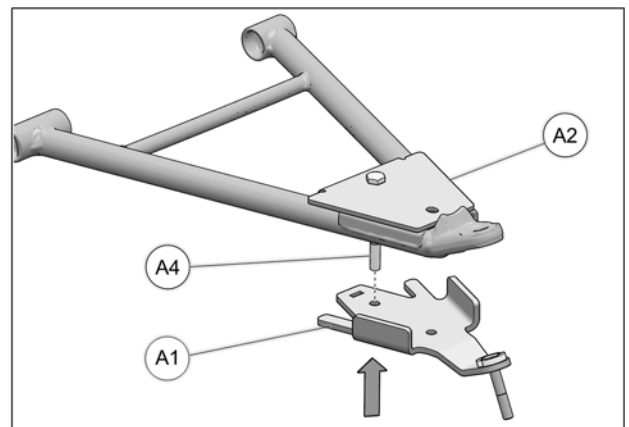

Fig. 15
6. Position bottom part of anchor bracket assembly (A1) under lower suspension arm. Pull back end of bracket (A1) up over bolt (A4) already installed in cover (A2). Make sure tenon is well inserted in mortise. Refer to Fig. 15